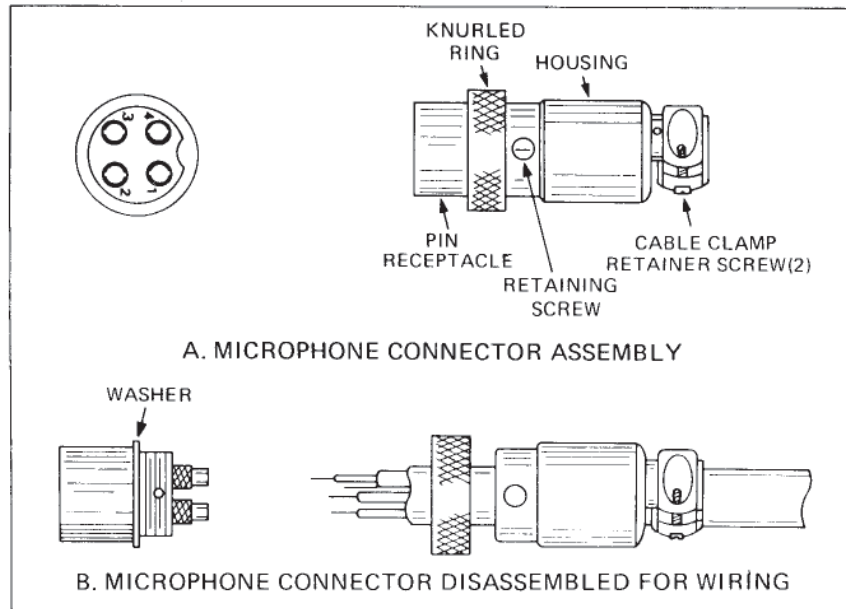

Fig. 4. Microphone plug wiring.
4. Feed the microphone cable through the housing, knurled ring and washer as shown Fig. 4.